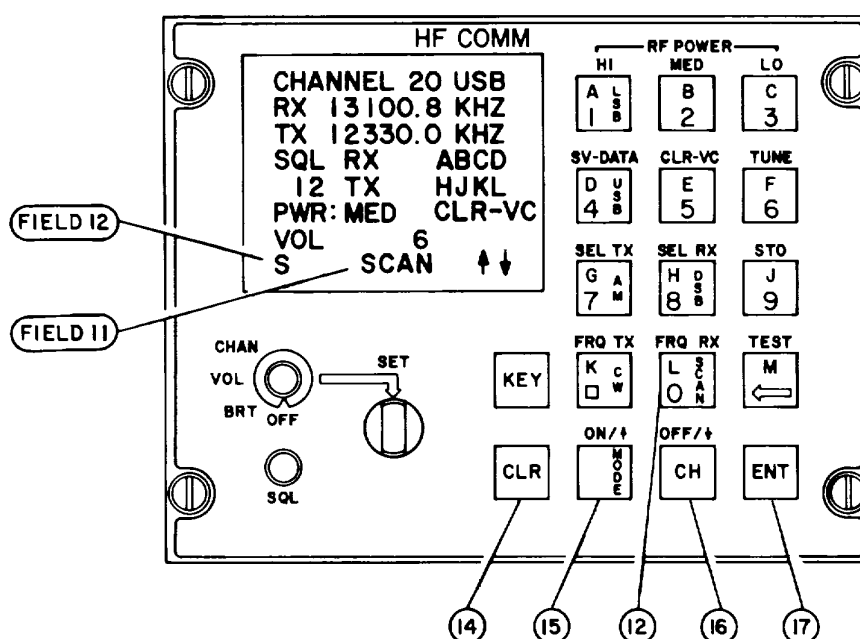

Figure 2-35. C-11245/U Scan Mode Function, Controls and Indicators
k. **Scan Mode.** Refer to figure 2-35. The two operations necessary for scanning are programming channels onto the scan list, and initiating the scan.